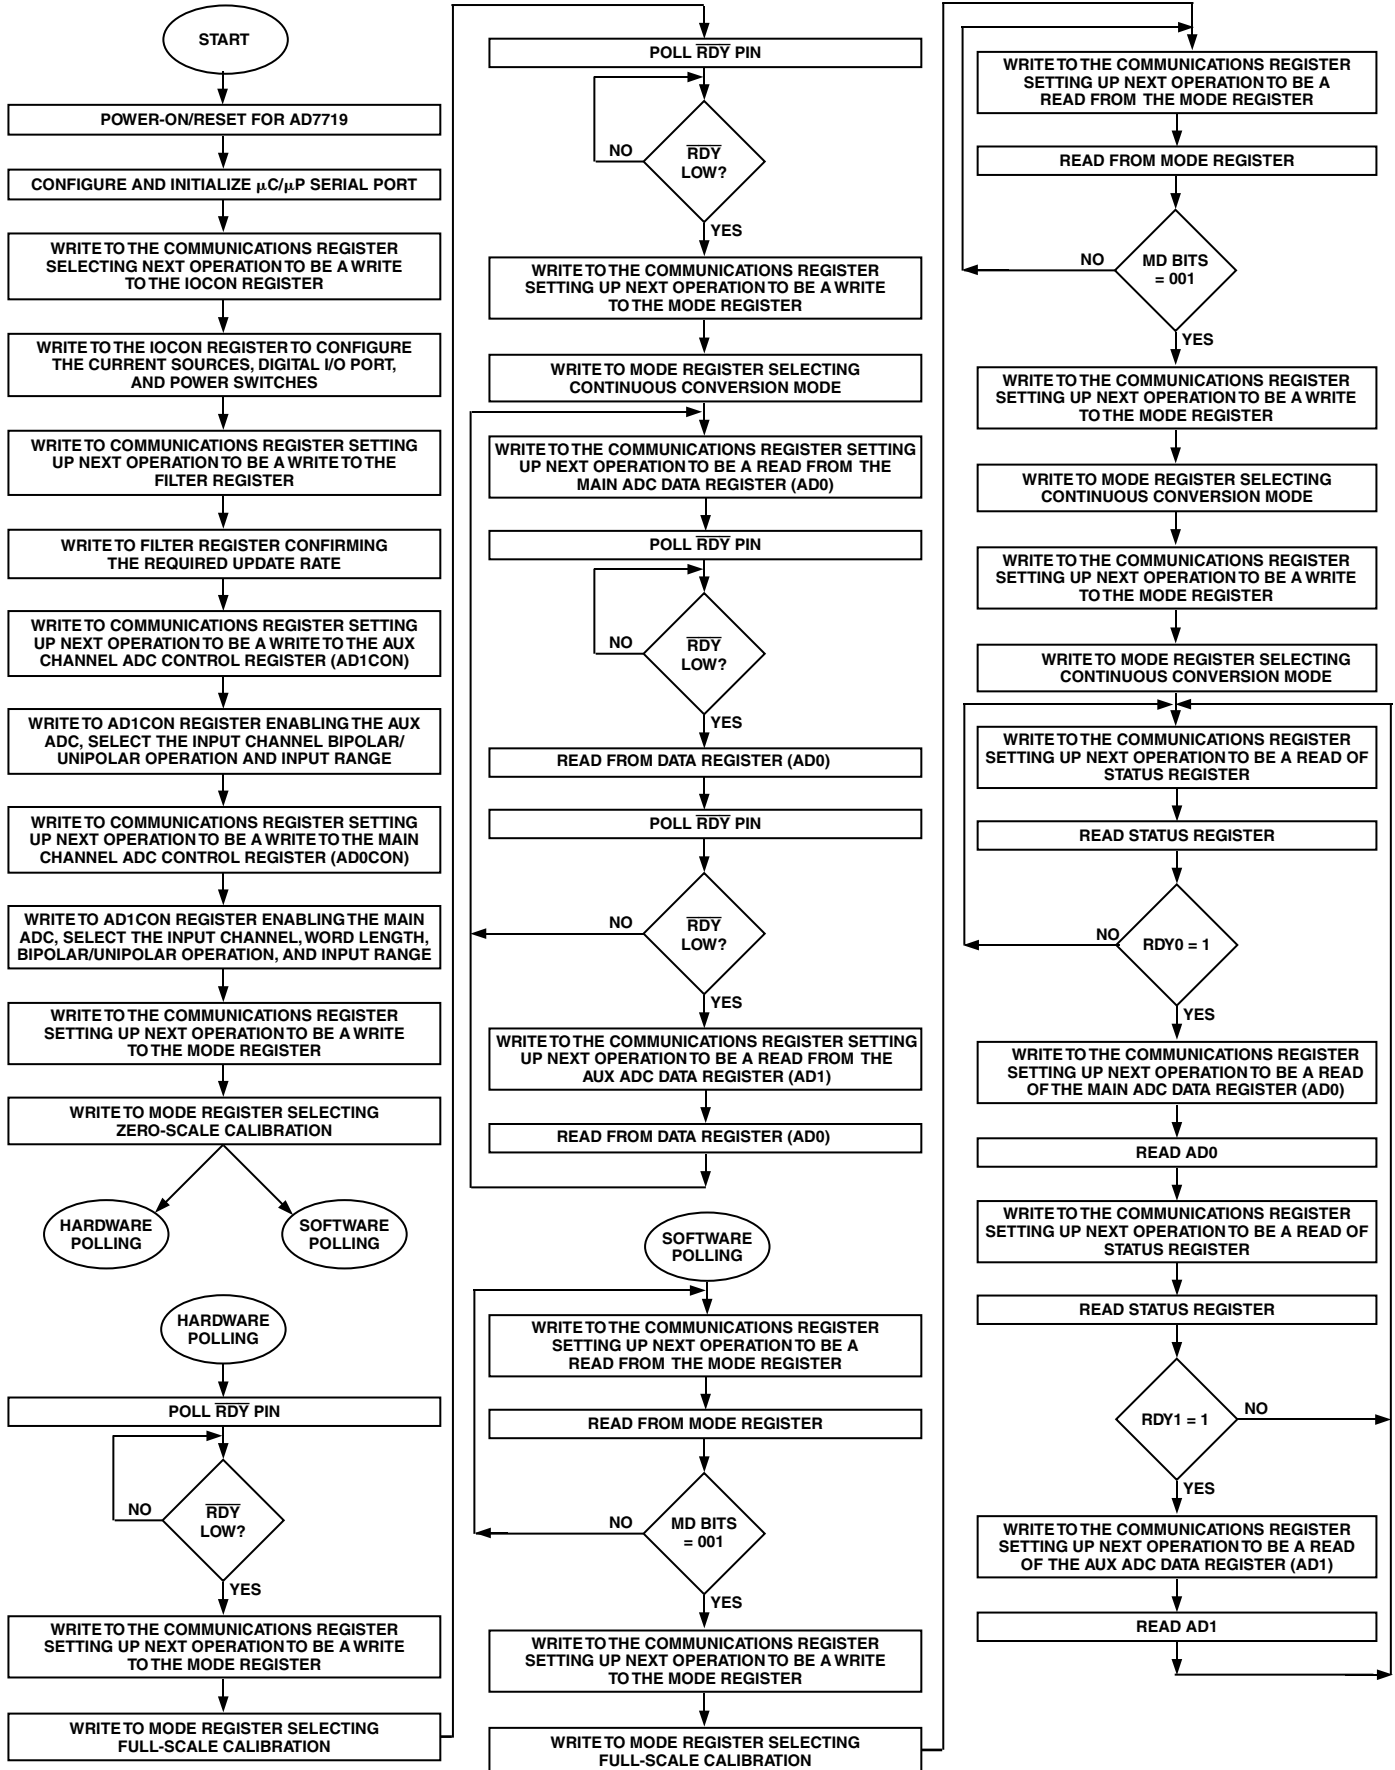
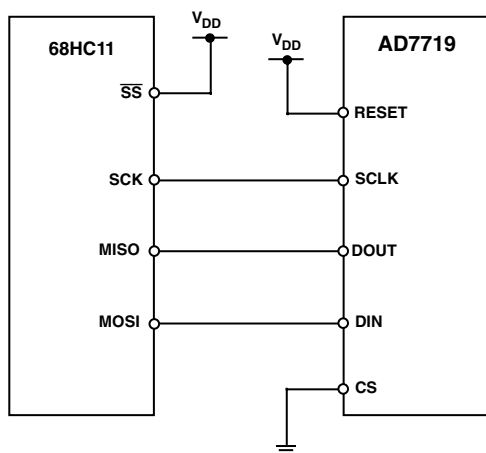

Figure 11. Flowchart for Initializing, Calibrating, and Reading Data from the AD7719 Main and Aux Channels
Figure 12. AD7719-to-68HC11 Interface
Figure 11 outlines a flow diagram of the sequence used to configure all registers after a power-up or reset on the AD7719. The flowchart shows two methods of determining when it is valid to read the data register or determine when a calibration cycle is complete. The first method is hardware polling of the RDY pin and the second method involves software interrogation of bits in the status and mode registers. The flowchart details all the necessary programming steps required to initialize the ADC and read data from the main and aux channel following a power-on or reset. The steps can be broken down as follows:
3. When the operating mode is selected, the user needs to determine when its valid to read the data in conversion mode or when the calibration is complete in calibration mode. This is accomplished either by polling the RDY pin (hardware polling) or by interrogating the bits in either the STATUS or MODE registers (software polling). Both are shown in Figure 11. It is assumed that both the main and aux ADCs are being used and calibration required. If the AD7719 is operated at the factory-calibrated conditions, a field calibration will not be required and these steps can be bypassed.
The AD7719's flexible serial interface allows for easy interface to most microcomputers and microprocessors. The flowchart of Figure 11 outlines the sequence that should be followed when interfacing a microcontroller or microprocessor to the AD7719. Figures 12, 13, and 14 show some typical interface circuits.
Figure 12 shows an interface between the AD7719 and the 68HC11 microcontroller. The diagram shows the minimum (3-wire) interface with  $\overline{CS}$  on the AD7719 hard-wired low. In this scheme, the RDY bits of the Status Register are monitored to determine when the Data Register is updated. RDY0 indicates the status of the Main ADC channel while RDY1 indicates the status of the Aux channel. An alternative scheme, which increases the number of interface lines to four, is to monitor the  $\overline{RDY}$  output line from the AD7719. The monitoring of the  $\overline{RDY}$  line can be done in two ways. First,  $\overline{RDY}$  can be connected to one of the 68HC11's port bits (such as PC0), which is configured as an input. This port bit is then polled to determine the status of RDY. The second scheme is to use an interrupt driven system, in which case the  $\overline{RDY}$  output is connected to the IRQ input of the 68HC11. For interfaces that require control of the  $\overline{CS}$  input on the AD7719, one of the port bits of the 68HC11 (such as PC1), which is configured as an output, can be used to drive the  $\overline{CS}$  input.